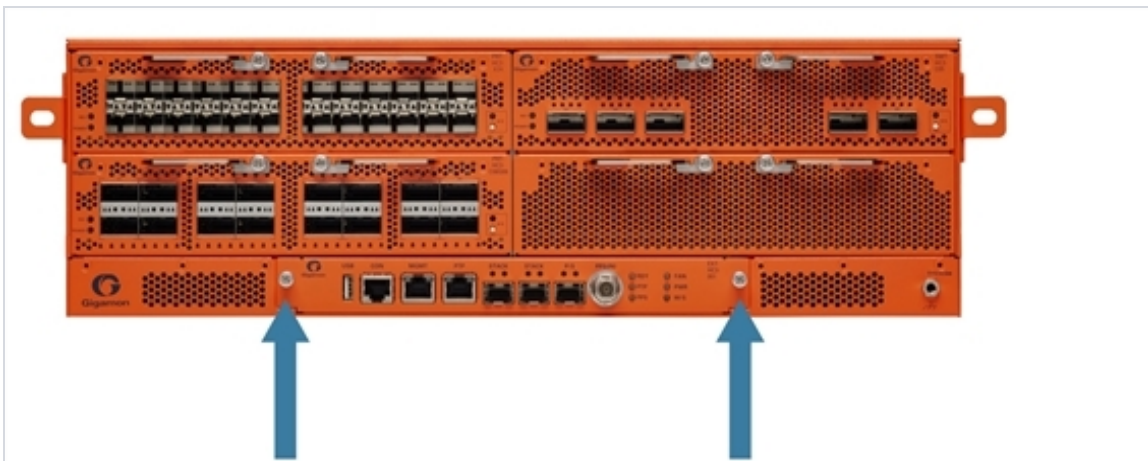

Figure 15: Extension Board Screw Location on GigaVUE-HC3 Front
2. Locate the two thumb screws on the extension board as shown in Figure 15: Extension Board Screw Location on GigaVUE-HC3 Front on page 83.